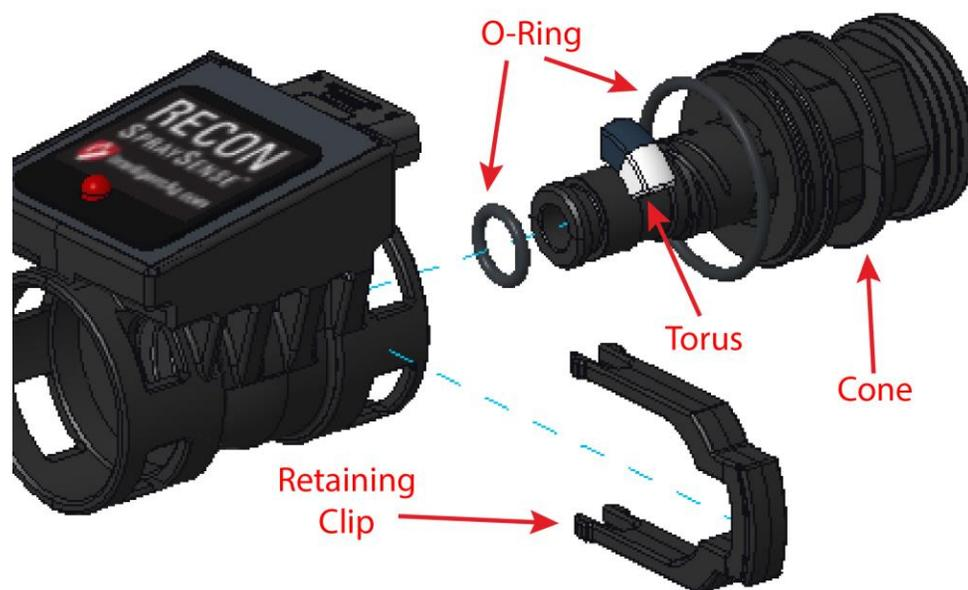

Figure 11: Cleaning the sensor
2. Use the install tool or pliers to give the cone a half turn. Pull out the cone, making sure that you don't lose the torus and two o-rings (shown in Figure 11).